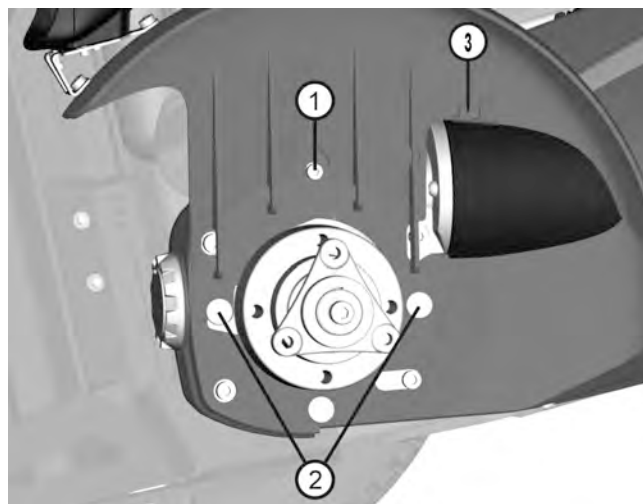

Figure 23. The front fender is fitted with one screw (1) and two fixing points (2) at the bottom.
The front fender is assembled with a screw (1) and two fixing points (2). See fig. 23.
In fig. 23 the wheelchair is shown without the drive wheel to get a better view of the front fender. The drive wheel do NOT need to be removed for this operation.
1. Position the front fender making sure the two fixing points (2) are correctly positioned in the grooves on the fender. See fig. 23.
2. Assemble the screw (1) and washer. See fig. 23.
The front fender and the drive motor cover should be attached in a groove (3). See fig. 23.